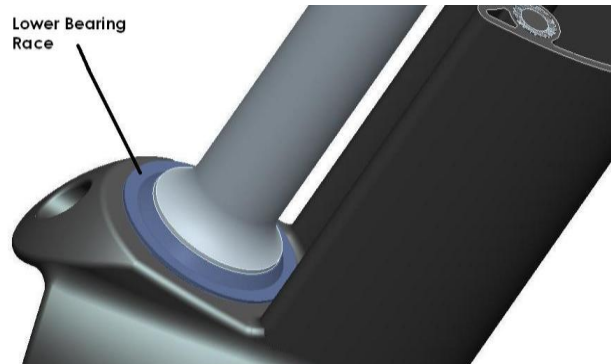

Fig. 1
Step 1) Install the Bearing Lower Race on the forks Steerer Shaft like you would on any standard fork. See Fig.1